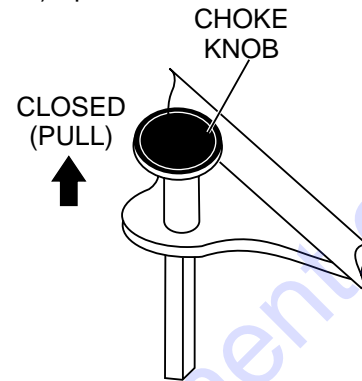

Figure 11. Choke Knob (Closed Position)
3. If starting a cold engine, pull the choke knob (Figure 11) upward to the "CLOSED" position.